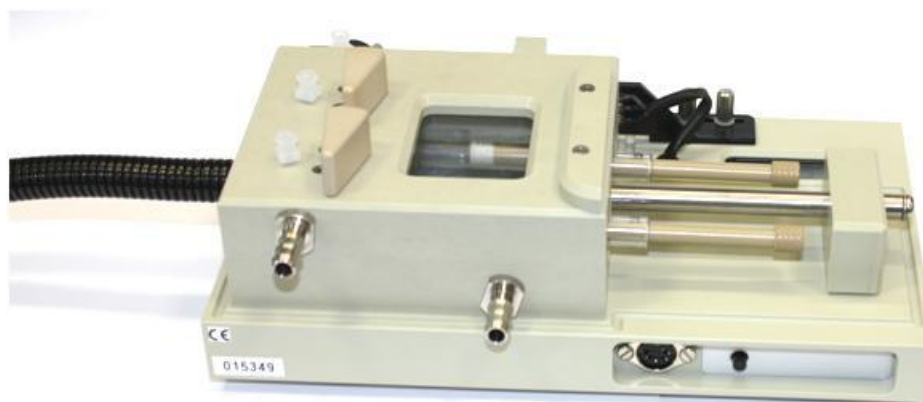

Figure 1.1: the RX2000
The RX2000, shown in Figure 1.1, is a high performance stopped-flow unit that enables your existing UV-visible spectrometer, fluorimeter or circular dichroism (CD) spectrometer to be used to follow reactions that are at least a thousand times faster than those accessible manually. With a dead-time of only 8 ms, first order reactions with rates in excess of 200 s^{-1} can be followed.